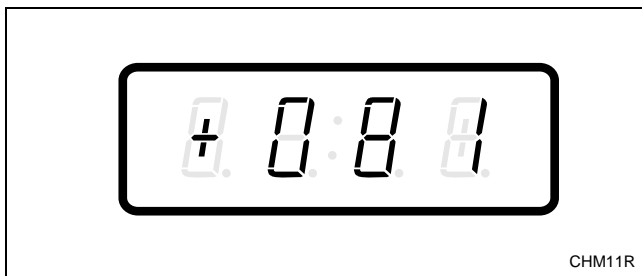

Figure 184
3. Press the DELICATES (+) or the COLD (-) keypad to scroll through the programmable options until “+081” appears in the VFD. Refer to *Figure 184*.